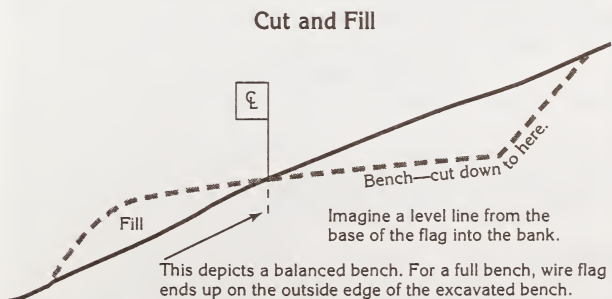

Figure 11—Basic sidehill trail building.
- For a balanced bench trail, the point where the wire flag enters the ground is the finished grade. Scratch a line between flags to keep you on course. Facing the uphill slope, begin digging about 150 mm (6 inches) from the flag cutting back into the slope. Imagine a level line drawn from the base of the flag into the bank. Dig into the bank down to this line, but not below (Figure 11). Pull the excavated material to the outer edge. Tamp this fill material as you go. On a full-bench trail, the wire flag essentially ends up at the outside edge of the trail. For less than a full-bench trail, the flag ends up somewhere between the centerline and outside edge. Keep this in mind when you place the wire flags.